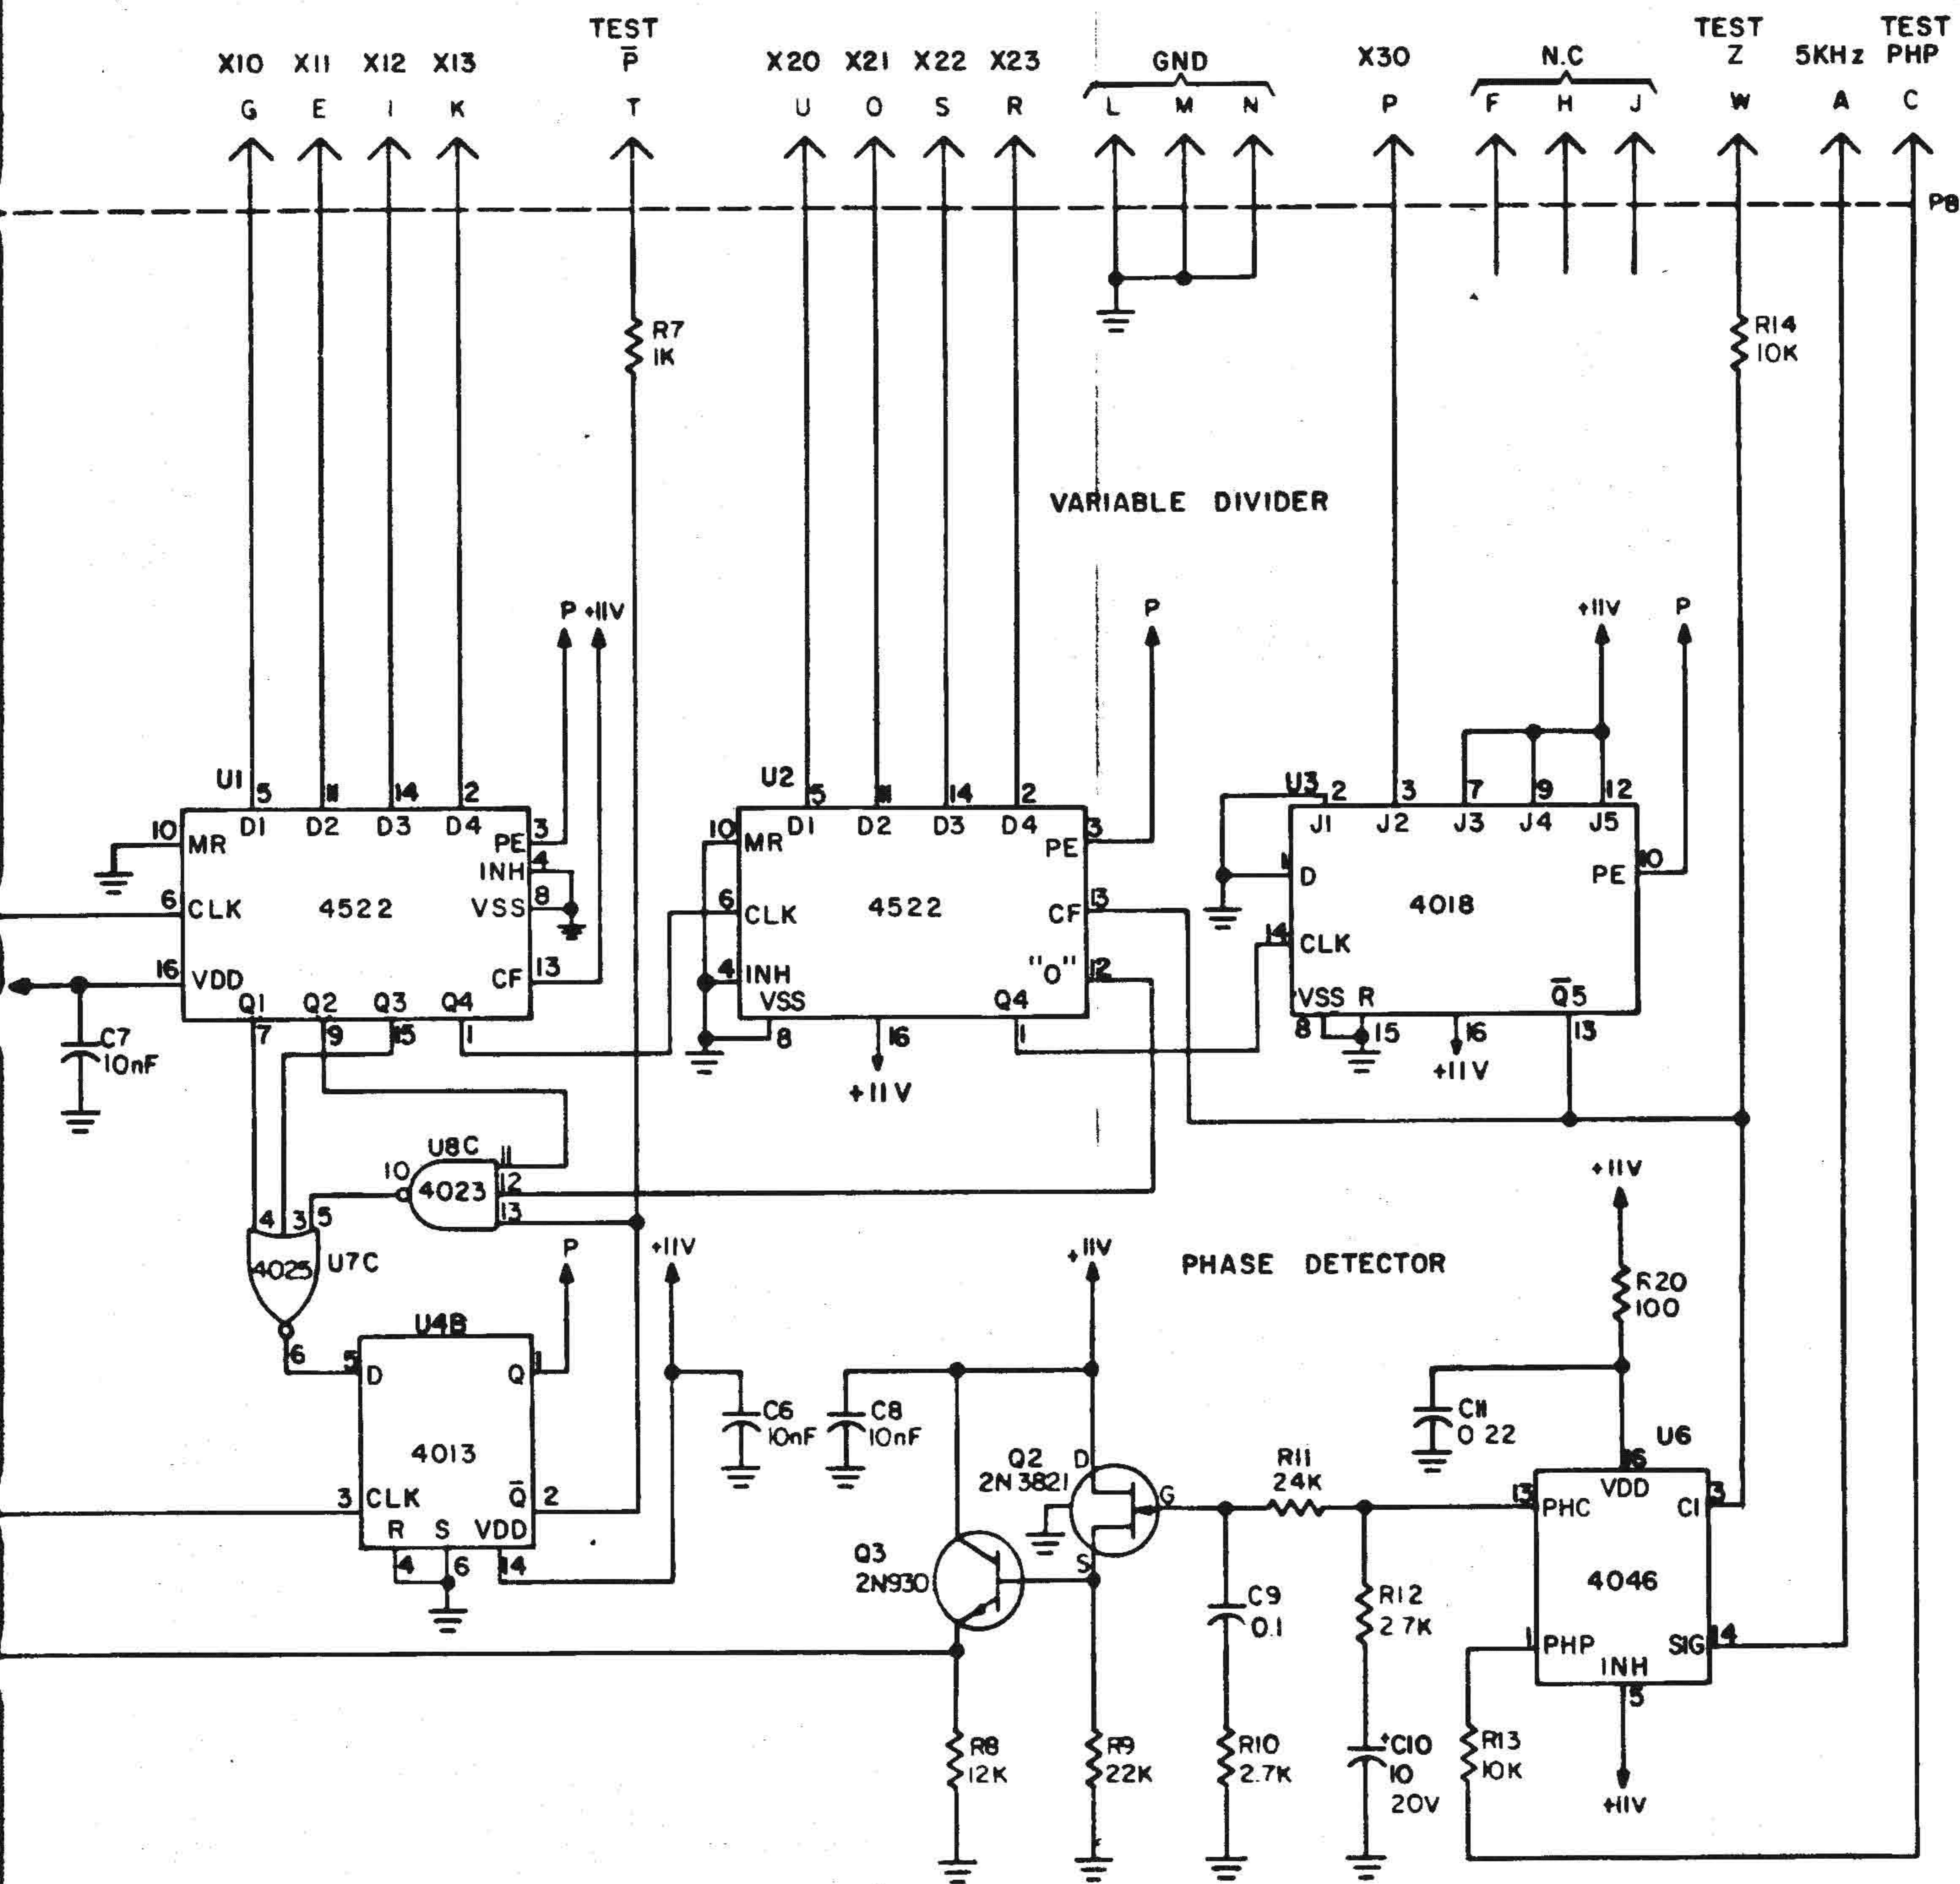

Fig. 2-54. Module LOL 1A3A4, schematic circuit diagram
b. Circuit Analysis (fig. 2-54, 2-55, 2-56).
(1) Phase detector (fig. 2-54, 2-55). The phase detector is U6. U6 is a monolithic phase lock loop, which contains a digital phase/frequency detector; the other circuits contained in U6 are not used.
(3) VCO circuit (fig. 2-54).
(5) Programmable divider (fig. 2-54). This divider is programmed by the binary-coded decimal (BCD) information received from the front panel switches. The least significant bit